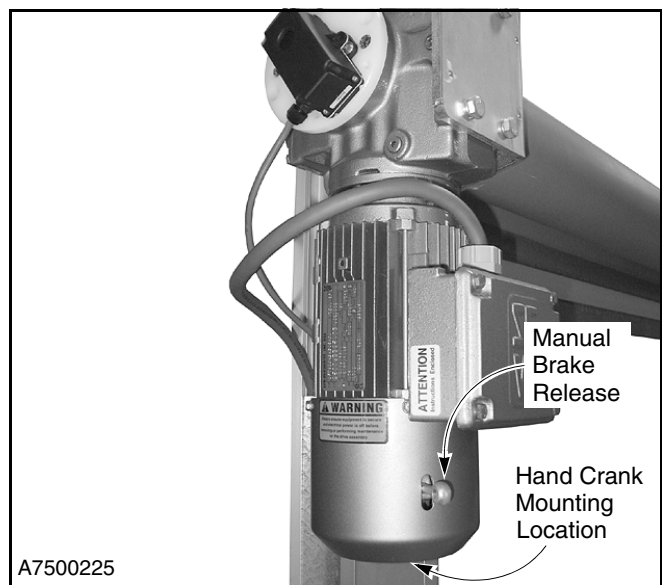

Figure 8
- a. Partially pull down and hold the manual brake release to disengage the brake. Allow the door to close smoothly to the desired height. (See Figure 8)